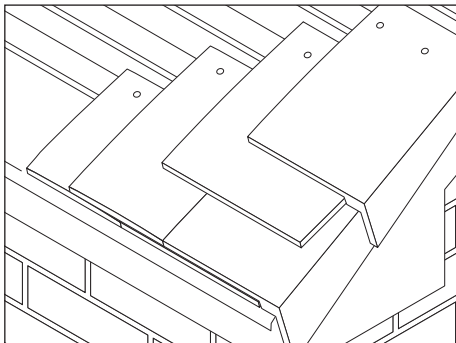

Fig. 10 – Successive courses
- 8 Mechanically fix these or install with Marley Eternit dry ridge system (Fig. 10).